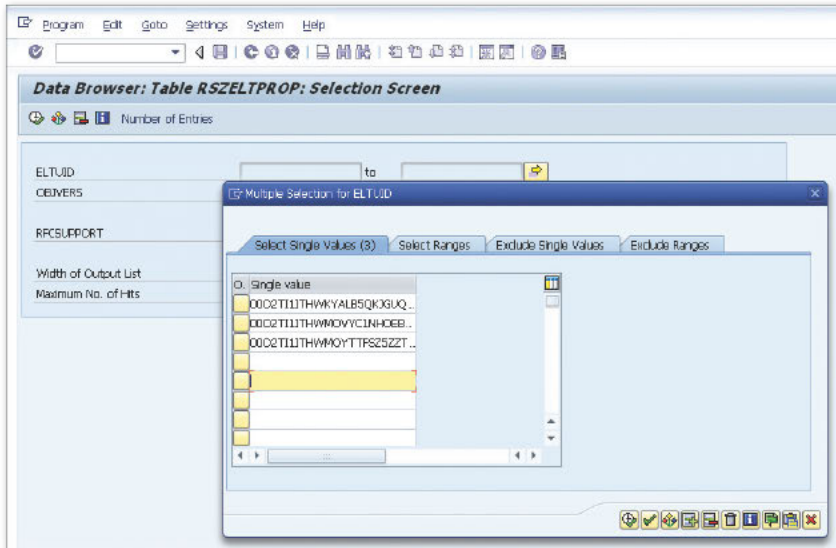

Figure 3 Entering the Query Technical Names for Selection
- Go to Transaction SE11, and go to the contents of Table RSZELTPROP. Enter the values of the ELTUIDs copied in the previous step into the ELTUID field of the table contents of this table and execute (see Figure 3).